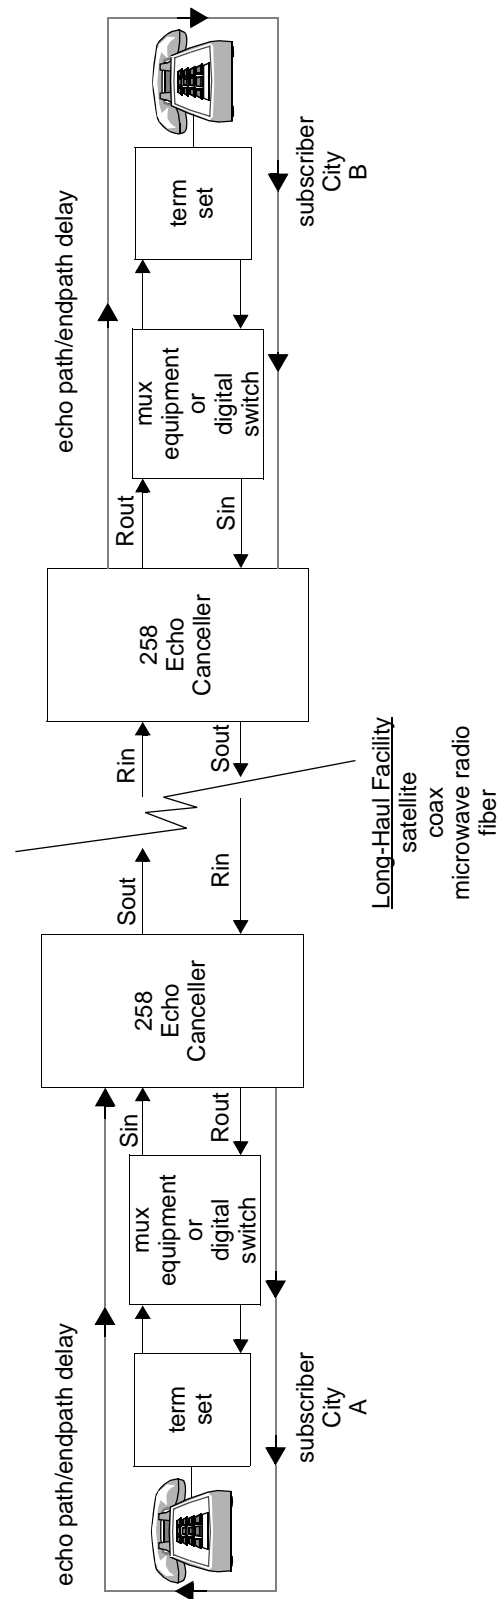

Figure 2-1 Typical 258 system long-haul facility network application
- 2.24 A typical 258 system application is shown in Figure 2-1. The primary cause of echo received at City B is the 4-wire-to-2-wire VF terminating set at City A. Transmission signal reflections at this interface are heard as echo in the corresponding far end receive channel. The City A 258 system actually protects the far end receive channels from echo. The City B 258 system protects City A receive channels from echo. This split-type configuration provides effective echo control regardless of the total delay in the intermediate transmission links.
- 2.29 When calculating endpath delay, the total round-trip delay between R-out and S-in (see Figure 2-1) must be considered.